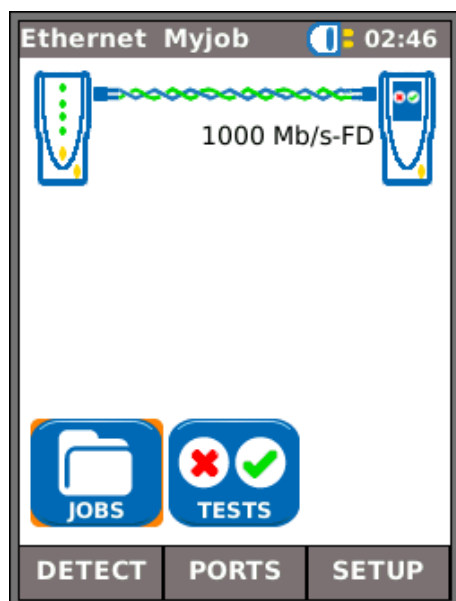

Fig 8
(1) When the Near-End Unit and Remote Unit are directly connected, with copper or fiber cable, press the soft key DETECT (F1) to detect all options available (Fig 8). In addition to wiremap tests (copper), cable performance can be tested and measured. For a full description of these options see *Tests menu description – Ethernet mode, page 24*.